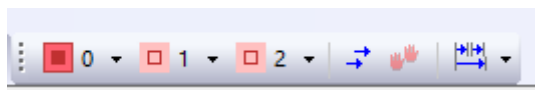

Figure 132 IAR EWARM Running Projects
- iii. Follow steps according to 5.3.5 Debug for Multiprocessing No. 3 to No. 7. As shown in Figure 132, it is according to the setting in multicore\_setup.xml. The primary project is 0, the secondary project is 1, and the tertiary project is 2.